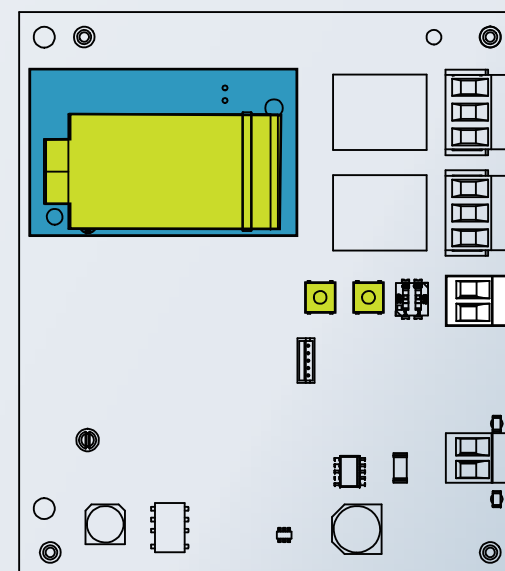

FIGURE 9: Location of SPAN & ZERO Controls
The sensor requires calibration at the specified calibration interval to ensure its accuracy is maintained over its life. Calibration is a two-step process that provides the sensor module with oxygen-free (or zero) gas, and then a specific concentration (or span) gas. Two calibration buttons (ZERO and SPAN) are provided on the main board as shown in Figure 9.
Ensure that gas is flowing to the sensor, then press and hold the 'ZERO' button (see Figure 9) for 3
- Apply the SPAN calibration gas to the sensor using a calibration adapter, following the instructions for the calibration kit being used. Ensure that gas is flowing to the sensor, then press and hold the 'SPAN' button (see Figure 9) for 3 seconds until the status LED starts blinking **YELLOW**, indicating that gas sampling is in progress.